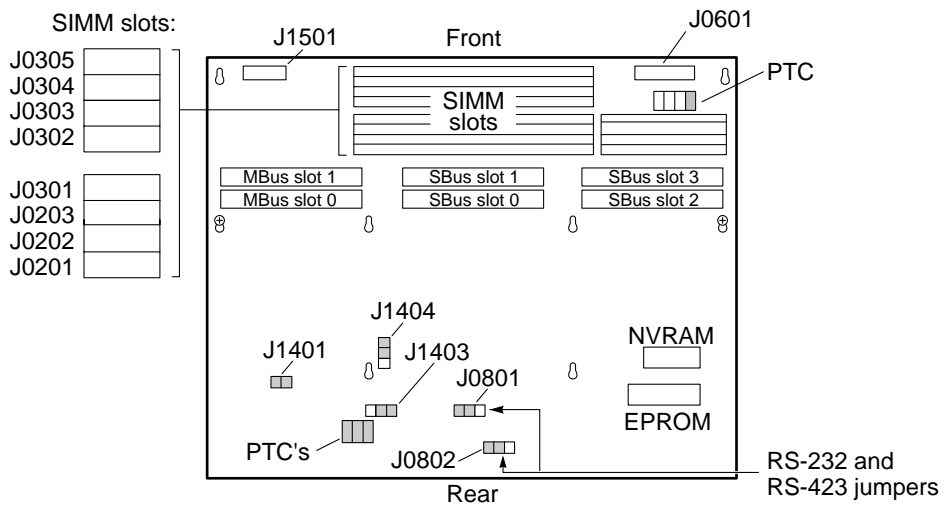

FIGURE 1-5 Main Logic Board
- FIGURE 1-5 presents the main logic board layout.
You can add various SBus cards to the four SBus slots on the main logic board. FIGURE 1-5 illustrates the SBus slots. See Chapter 10 for information on how to replace SBus cards. Following is a list of some of the Sun SBus cards available for the SPARCstation 10 system.